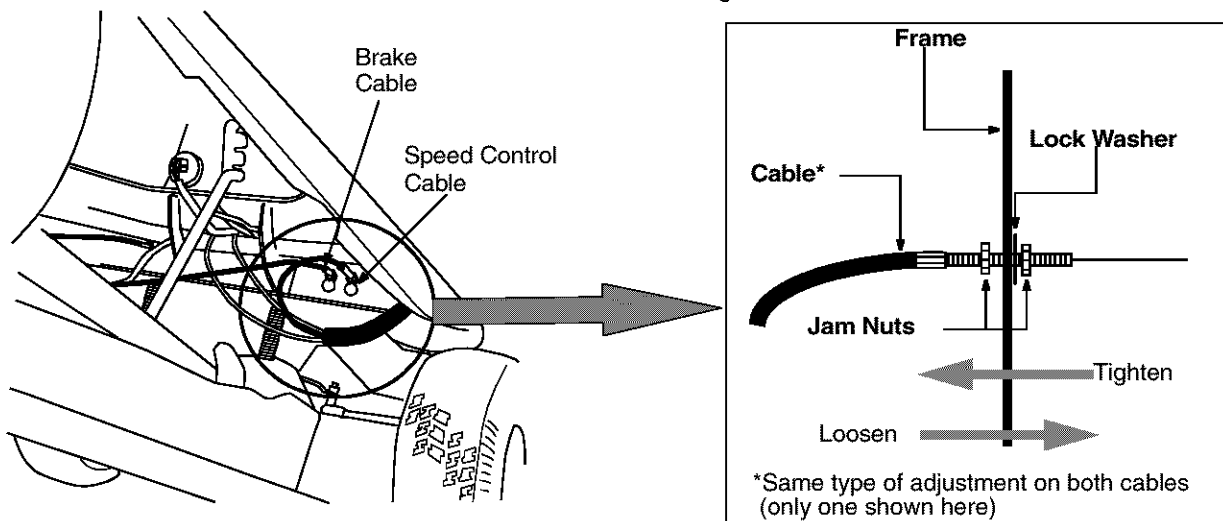

Figure 10
Adjustment to the brake pedal is made at the cable end. See Figure 10 .
6. Locate the brake cable on the right side under the front housing. See Figure 10 .
7. Using a pair of 1/2" wrenches, loosen the jam nuts and back the cable out to tighten or thread inward to loosen. See Figure 10 inset.
Adjustment to the "Go" Pedal is made at the cable end. See Figure 10 .
5. Locate the speed control cable under the front housing. See Figure 10 .